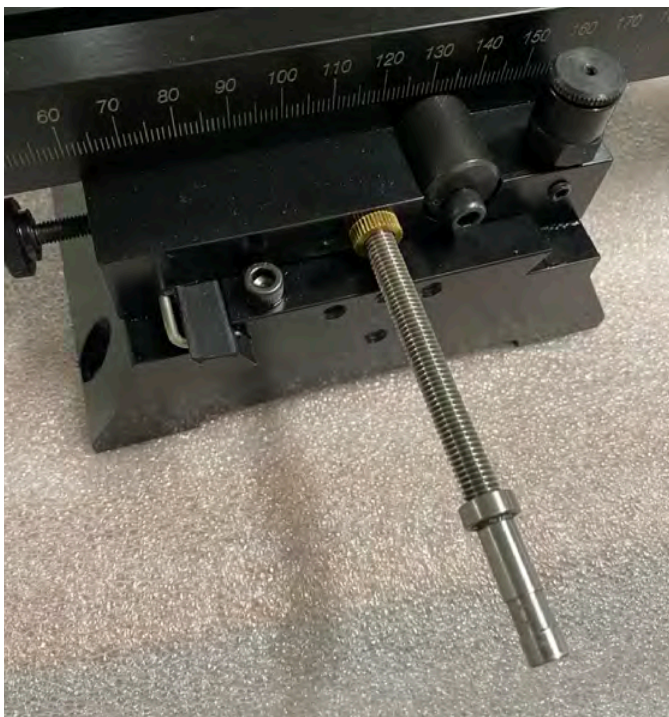

FIGURE 9
J. Now pull the saddle up close to the end of the base (see Figure 9).